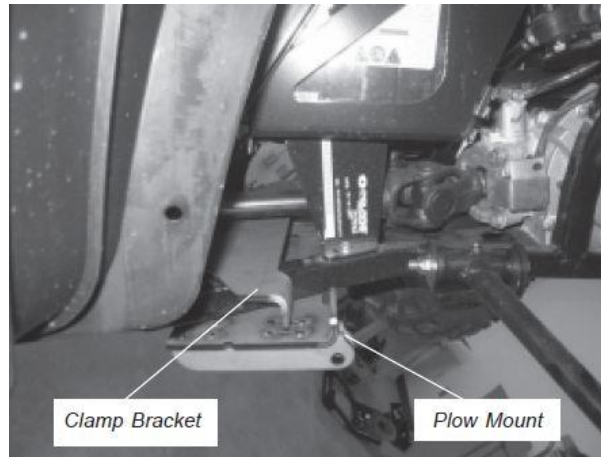

Figure 5
6. Place the clamp bracket (A2) over the frame and behind the tabs of plow mounting bracket (A1) (Figure 5).